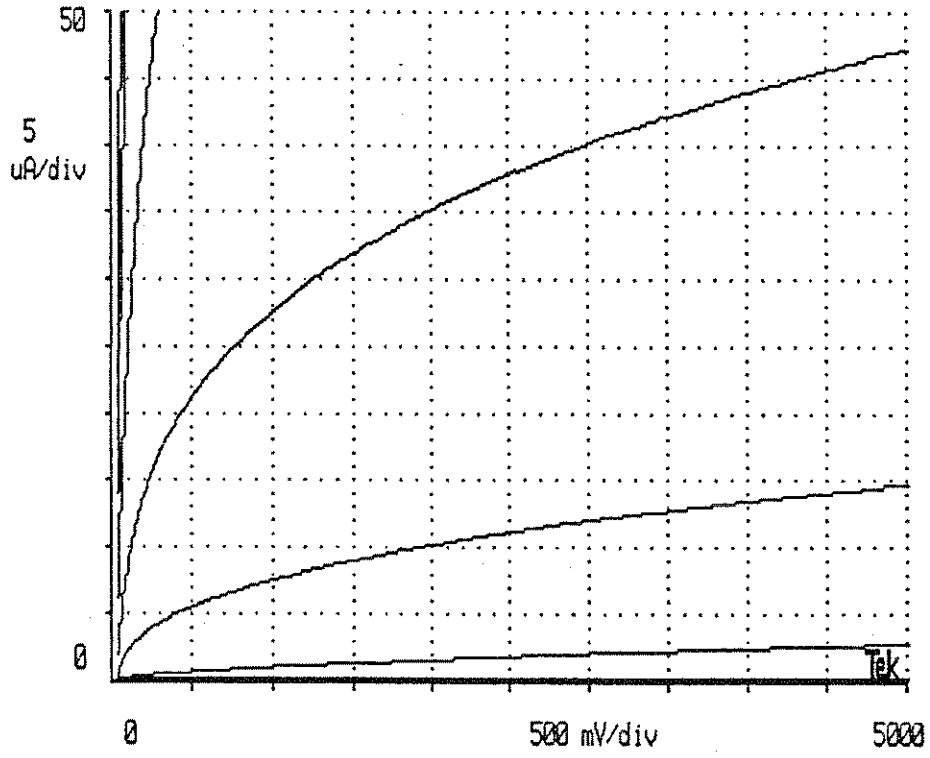

Figure 3-13: Pinchoff Voltage Curves
Step 2. Press START. This will result in a picture of the pinch off region of the DUT (Figure 3-13).